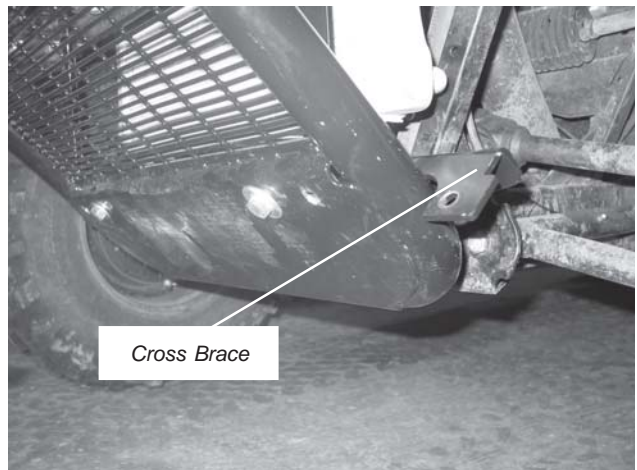

Figure 9 Location of cross brace.
7. If not already done so, install the cross brace to the back side of the front bumper. Install the two inner 7/16" x 1 1/4" bolts, washers and lock nuts. Do not tighten at this point. Washers go on both bolt and nut sides. See Figure 9.